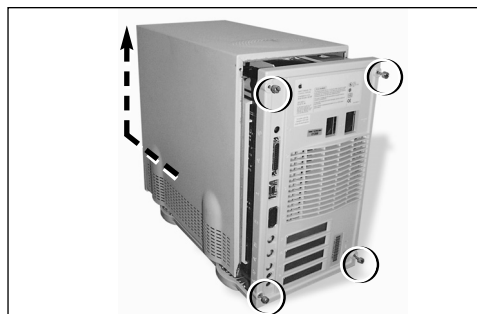

Figure 27: Loosen security screws and remove case cover
3. Open your Power Macintosh by first loosening the four security screws on the back of the case with a large flatblade screwdriver; then, gently slide the case cover off the computer (*Figure 27*).